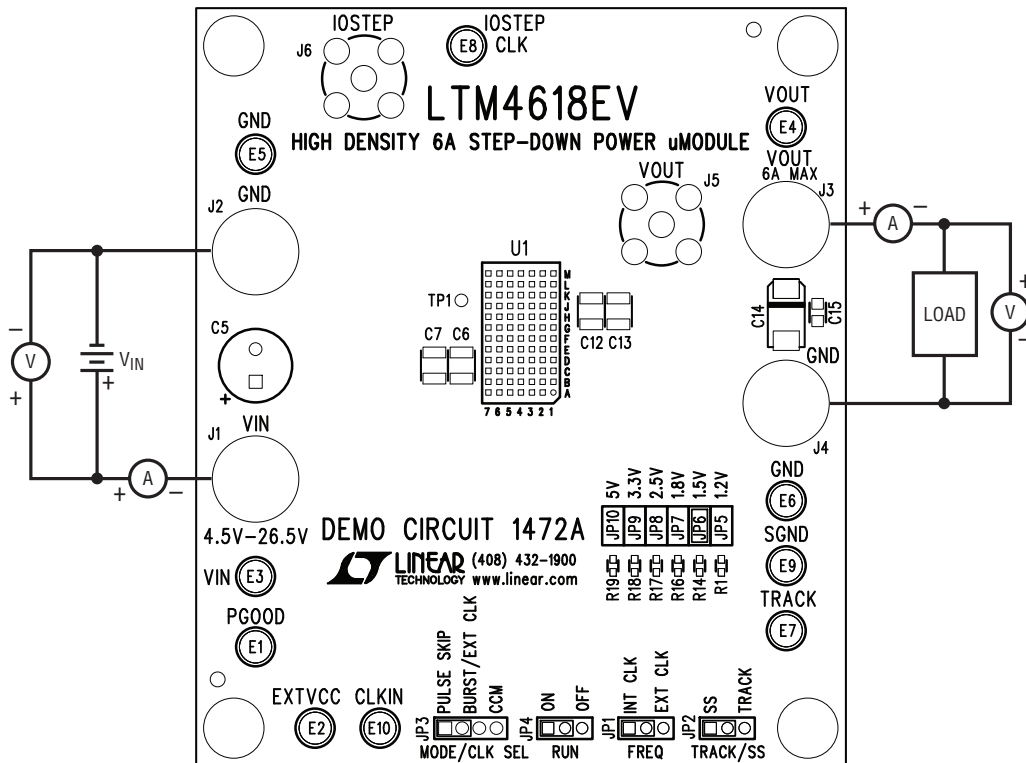

Figure 1. Proper Measurement Equipment Setup
Demonstration circuit 1472 is easy to set up to evaluate the performance of the LTM4618EV. Please refer to Figure 1 for proper measurement equipment setup and follow the procedure below.
1. With power off, connect the input power supply, load and meters as shown in Figure 1. Preset the load to 0A and V_{IN} supply to be 0V. Place jumpers in the following positions for a typical 1.5V_{OUT} application: